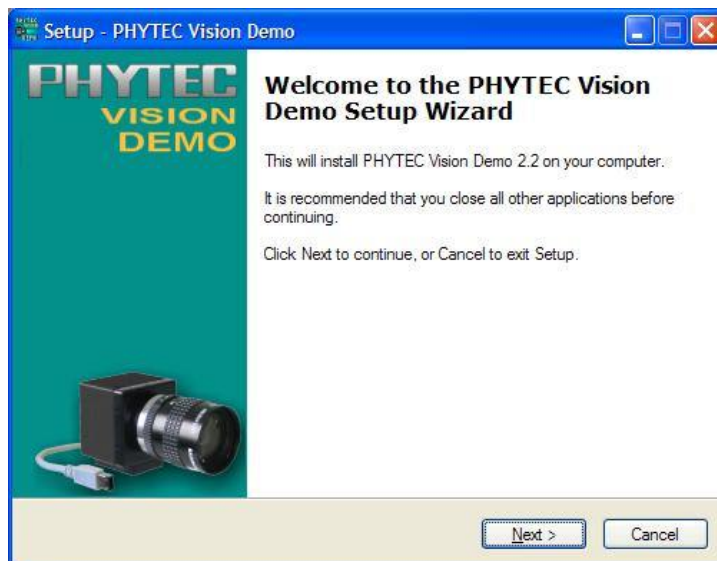

Figure 18: Demo Installation, Step 1
- The demo program's installation program for the USB cameras will appear, *Figure 18*: